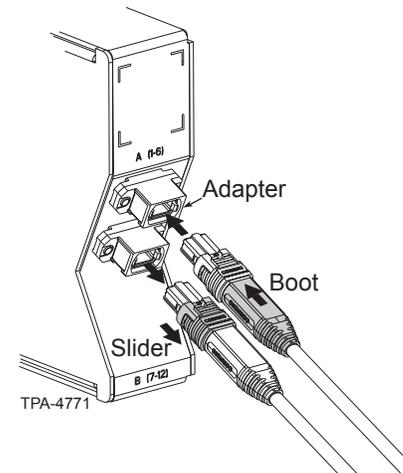

Figure 3
Step 2: To install the connector, grasp the connector by its boot which is marked "push." Align the key in the connector with the slot in the adapter and push the connector until it clicks in place (Figure 3).